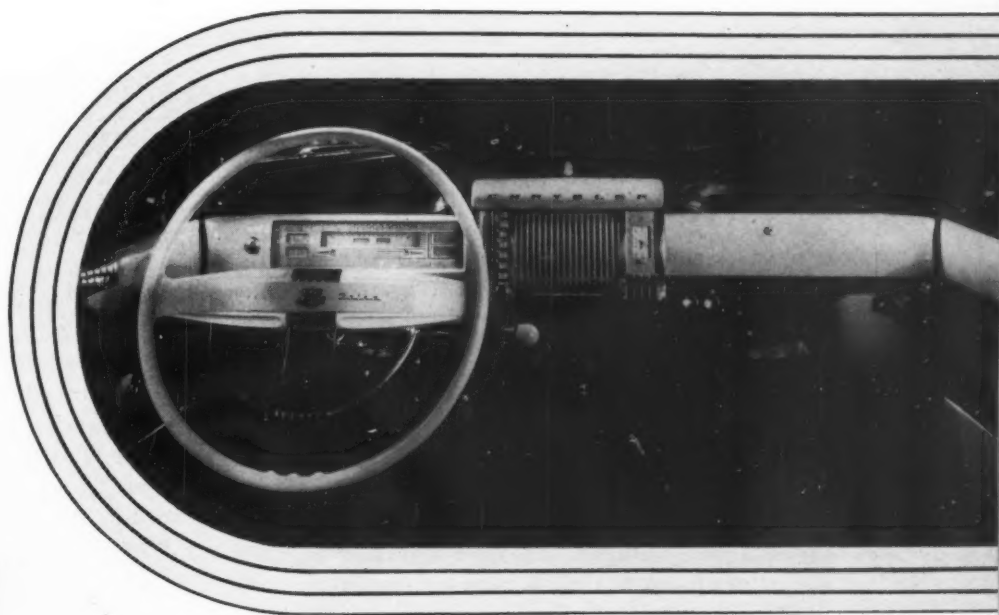

Fig. 1—Above—Automobile dash utilizes plastics. Door trim, steering wheel and knobs also utilize plastics to give a neat attractive appearance
**AUTOMOTIVE:** Various decorative appointments, molding and accessories formerly prepared from die castings are being redesigned. For example, one automobile manufacturer reports that five pounds of zinc will be saved on each car in the redesigned models incorporating more plastics. *Fig. 1* illustrates the use of plastics on a dash.